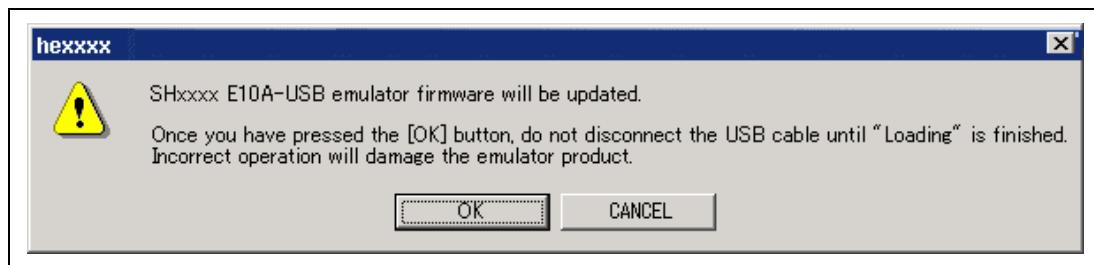
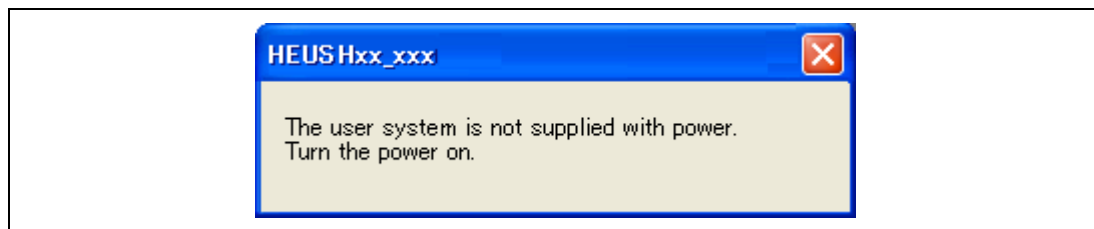

Figure 3.21 Dialog Box to Confirm Updating of the SHxxxx Emulator Firmware
Figure 3.22 Dialog Box of the Turn the Power On Message
9. The dialog box shown in figure 3.21 is displayed if no product groups have been installed in the emulator at the time of purchase or the emulator firmware has been set up for a different device group. The dialog box shown in figure 3.22 is displayed if an old version of the emulator firmware has been set up in the emulator. Clicking the [OK] button sets up the emulator firmware.
- When the Reset assert (Auto Connect) option is in use, the dialog box shown in figure 3.22 is displayed. When the power of the user system is turned on, figure 3.22 is not displayed.